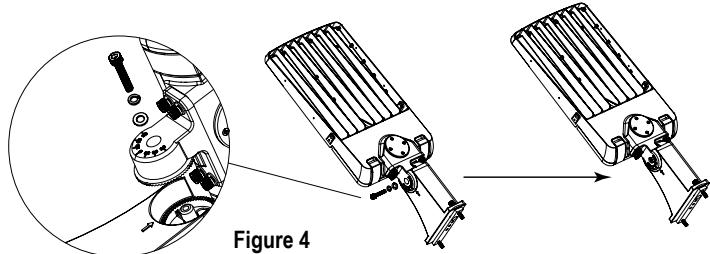

Figure 4
2. Lock the mounting and housing in place using the supplied M8x25mm machine thread screw, M8 spring washer and M8 flat washer at torque setting 9.6NM. (See Fig. 4)